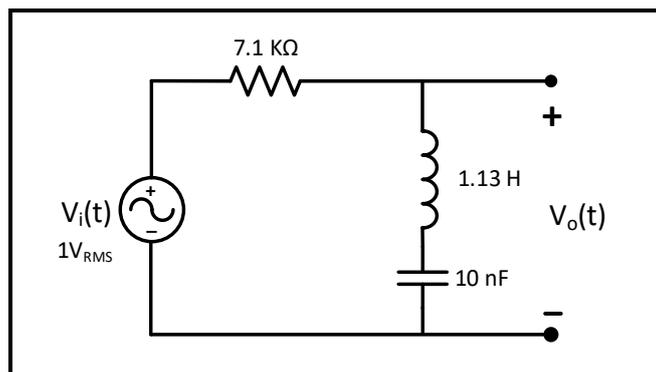

Figure 11.6
1. Calculate the center frequency (f_0), two cut-off frequencies (f_{C1} and f_{C2}), and bandwidth (β) **in Hertz**, for the circuit in Figure 11.6.
2. Simulate the circuit of figure 11.6 using ac sweep with a Vac source at 1 V amplitude; plot the magnitude of the output voltage (V_o)
3. Repeat Step 2 for the circuit in Figure 11.6, using $R = 7.1 \text{ k}\Omega$.
1. Connect the circuit of Figure 11.6, with a sinusoidal input voltage at $1 V_{RMS}$, use decade box for R.